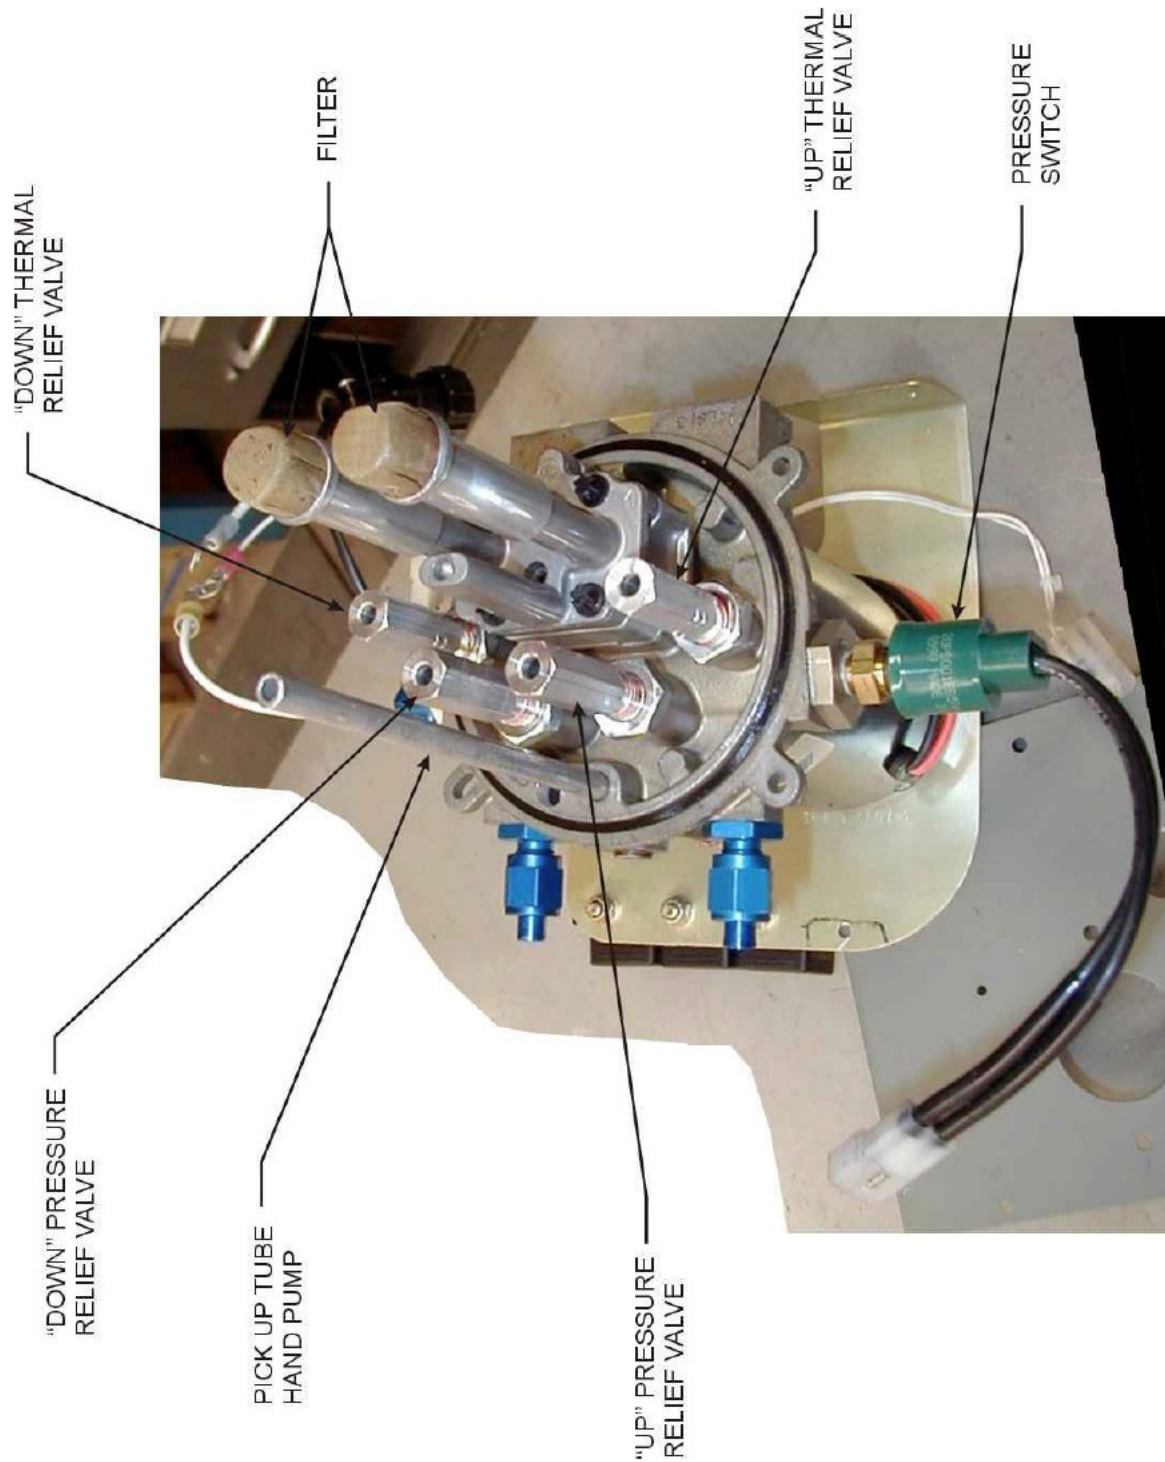

FIGURE 8-2 INTERNAL VIEW HYDRAULIC PUMP
2. If adjusting, refer to Figure 8-2 for location of relief valves.